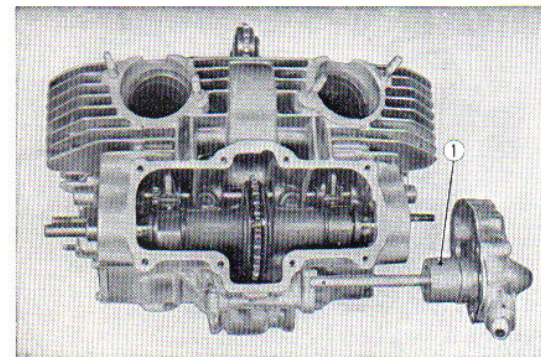

Fig. 3.37 Installing the gear box assembly
4. Install the gearbox assembly. Firmly set the convex section of the tachometer pinion into the camshaft groove. (Fig. 3.37)